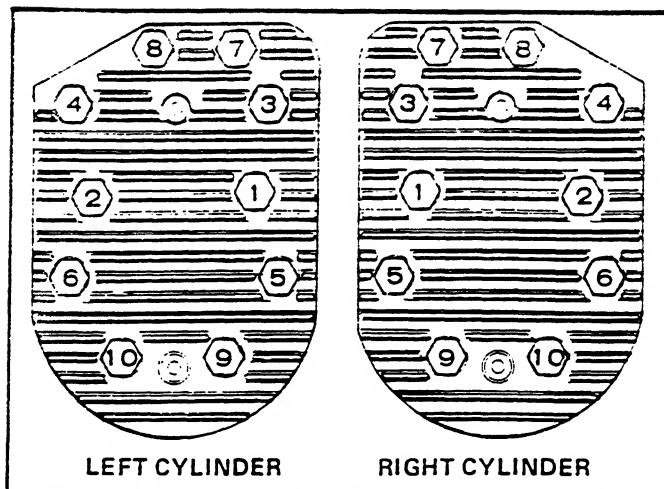

FIGURE 23. HEAD BOLT TIGHTENING SEQUENCE
3. Change resistance setting on ohmmeter. Place ohmmeter leads inside of spark plug cable holes (Figure 23). Secondary resistance should read 14,000 (±10%) ohms @ 70°F.
The cylinder head bolts should be tightened in the order designated and to the torque specified at the time the engine is assembled or the cylinder head replaced. This should be at room temperature. At some later time, after the engine has been operated so it has reached normal hot temperature and allowed to cool to room temperature, the cylinder head bolts should be retorqued to the original specified torque. This retightening should be done before the engine has been run a total of fifty hours. See Figure 23 for the proper head bolt tightening sequence.